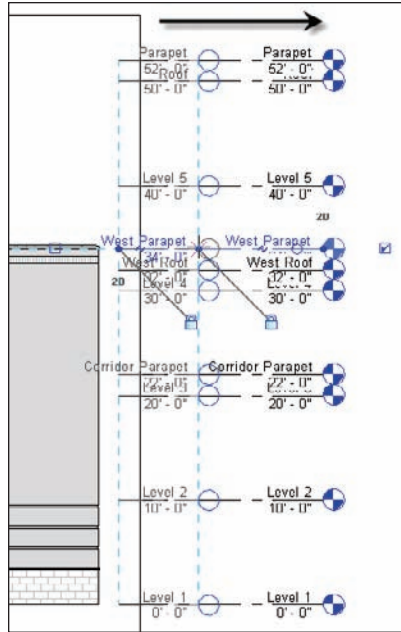

FIGURE 3.39 You can adjust the levels by picking and dragging the blue grip at the intersection of the level line and the datum bubble.
7. Slide the elevation markers to the right, out of the way of the walls (see Figure 3.39).